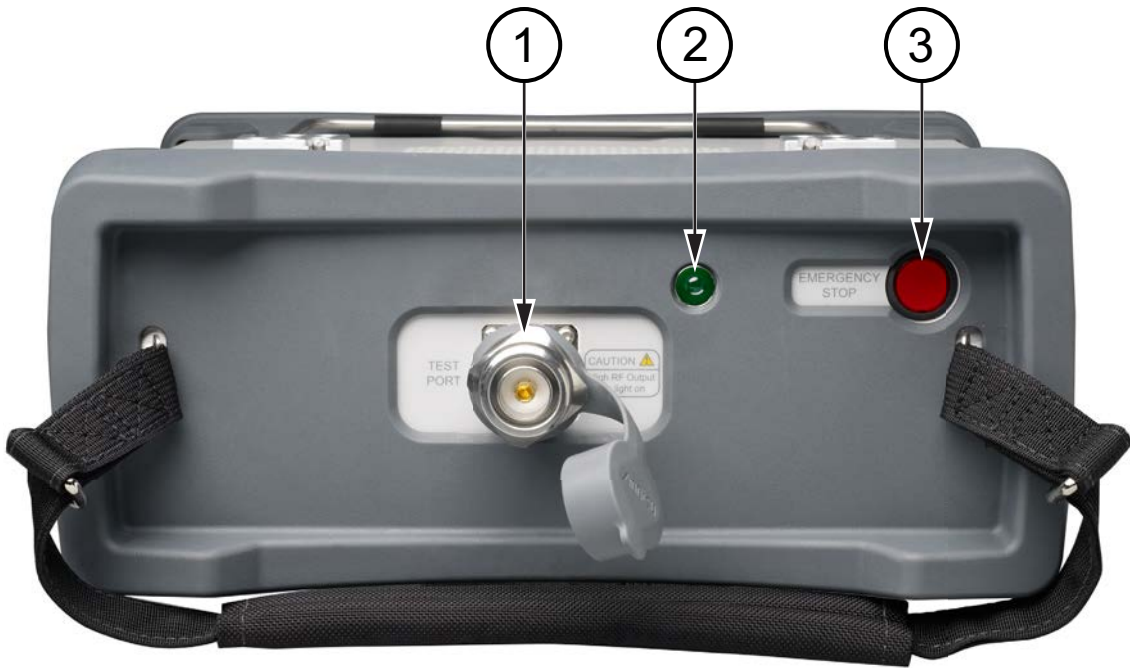

Figure 2-4. PIM Master Connection Diagram – Top
RF power can be immediately turned off with the Emergency Stop button (item 3 in Figure 2-4 on page 2-8).
(item 1 in Figure 2-4)
(item 2 in Figure 2-4)
(item 3 in Figure 2-4)